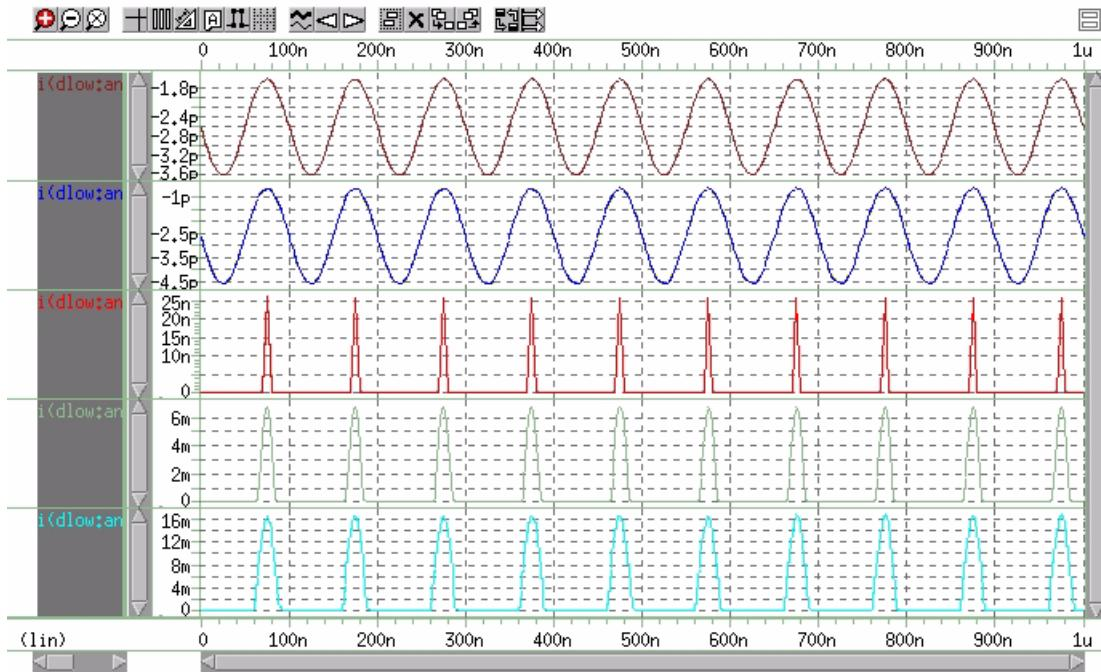

Figure 239 Plot of Current through Diode dlow vs. Time
12. Click the ungroup panels icon ()on the WaveView panel tool bar to display a plot similar to the one shown in Figure 239 on page 923.